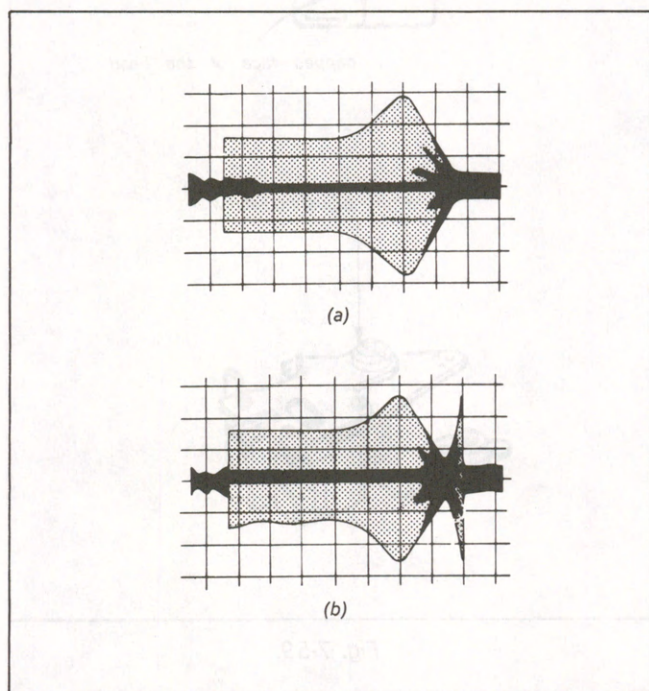
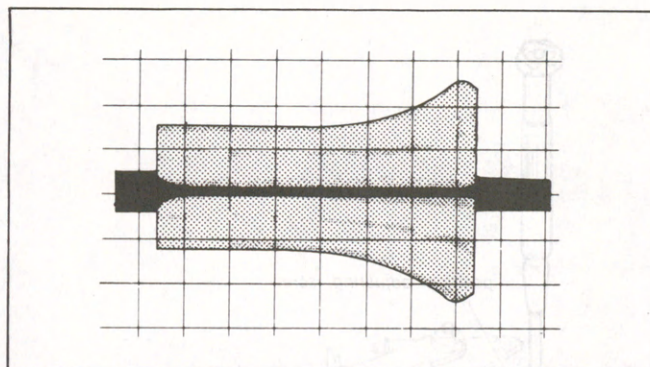
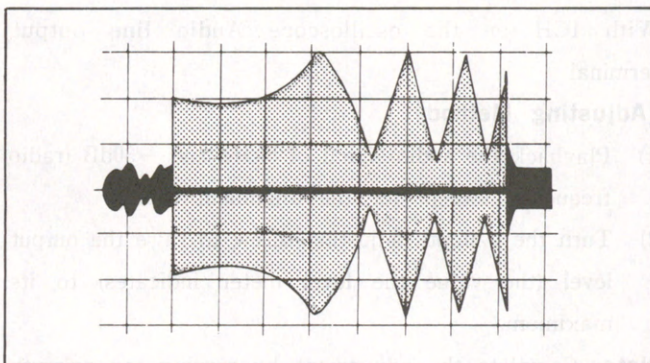

Fig. 7-60.
Fig. 7-61.
Fig. 7-62.
- i) When it can be observed within the ranges as shown (a) and (b) in Fig.7-60, proceed to the step 5), keeping it as it is.
- ii) If the waveform swells lower than the one shown in (a) in Fig.7-60 (Fig.7-61), loosen the capstan lock screw and turn the capstan adjusting screw counterclockwise so that the waveform could be taken within the ranges shown in Fig. 7-60
- iii) If the waveform swells higher than the one shown in (b) in Fig.7-60 (Fig.7-62), loosen the capstan lock screw and turn the capstan adjusting screw clockwise so that the waveform could be taken within the ranges shown in Fig. 7-60.
- 5) Lock the capstan lock screw (turn it clockwise until it can hardly get turned, and further tighten it by approx. thirty degrees.). At the time, the waveform varies itself a little. If it swells out of the ranges shown in Fig.7-60, repeat the step 4).